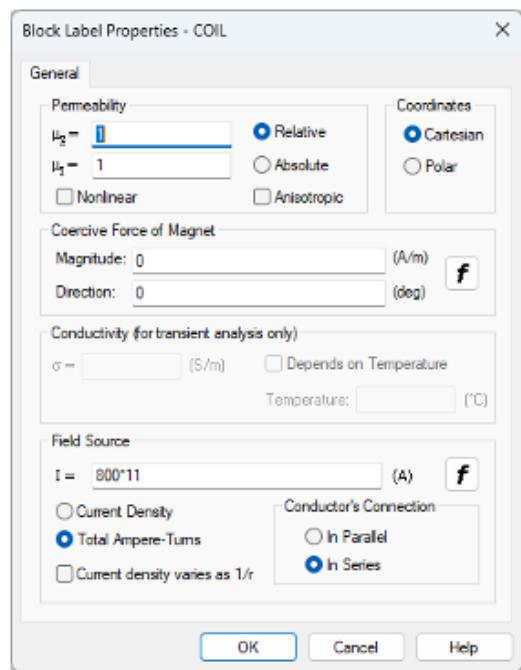

Figure 9: The Label Properties dialog box settings for, LEFT: AIR and, RIGHT: the COIL.
1. In the left-hand panel (see Figure 8) double click on the AIR label. Set the relative permeability to 1, as is shown in Figure 9 (LEFT). Then click **OK**.
2. Now double click on the COIL label (see Figure 9 (RIGHT) for values to be entered). Set the relative permeability to 1. In the Field Source section at the bottom, in the current, “I=” entry box, we need to enter the total Ampere-turns of the coil. We are using square cross-section wire 1 mm by 1 mm. This wire is capable of continuously carrying, at room temperature, 11 A. So, in this box we enter “800*11” i.e. the number of turns multiplied by the current in each turn. Make sure the “Total Ampere-Turns” radio button is selected (this can only be done after you’ve entered the “800*11”) and that the conductors are connected in series. When finished, click **OK**.